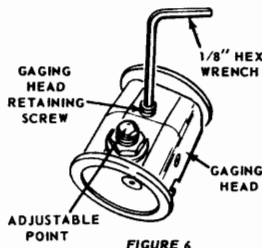

FIGURE 6
4. See Figure 6. If Adjustable Point is installed, remove it.
2. Check Centralizer Yoke for free movement. If it is binding, loosen Gaging Head Retaining Screw (see Figure 6) until Centralizer Yoke moves freely.